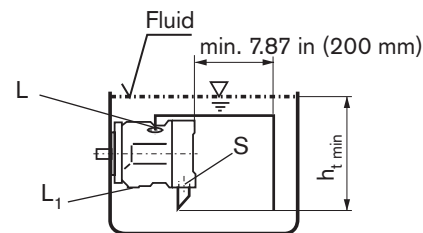

Fig. 3
a) If the min. fluid level is above the top of the pump: plug port "L₁", "L" and "S" open; it is recommended to pipe "L" and connect a suction pipe to "S" (see fig. 3).